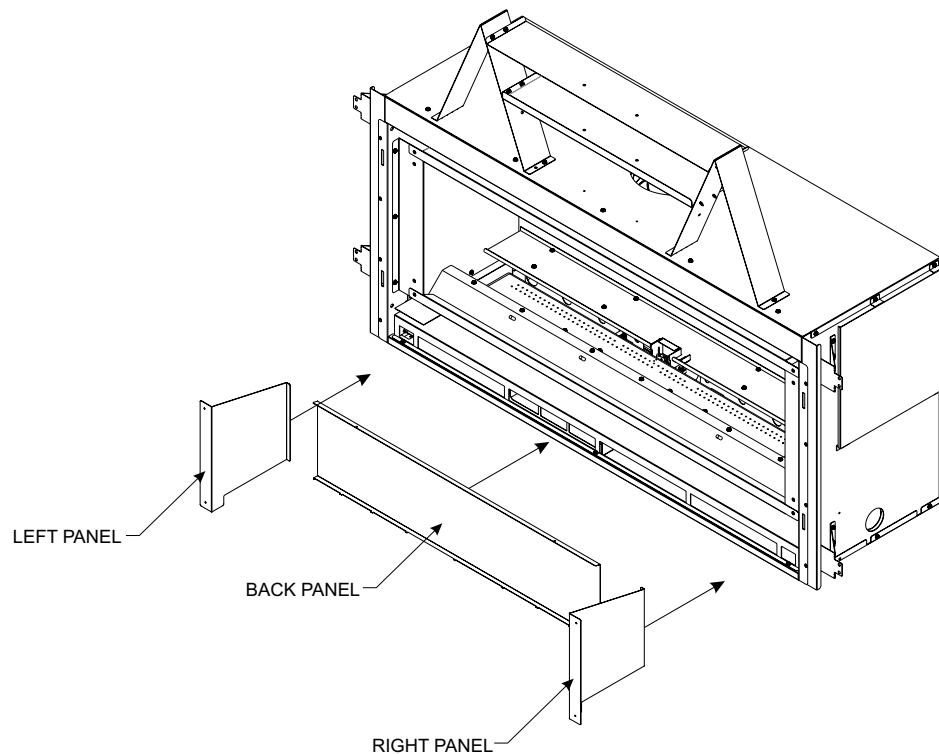

Figure 58
5. Locate the two holes in each side porcelain piece. These will line up with two holes in the front face of the firebox. Place a screw through each hole and fasten. **See Figure 58.**